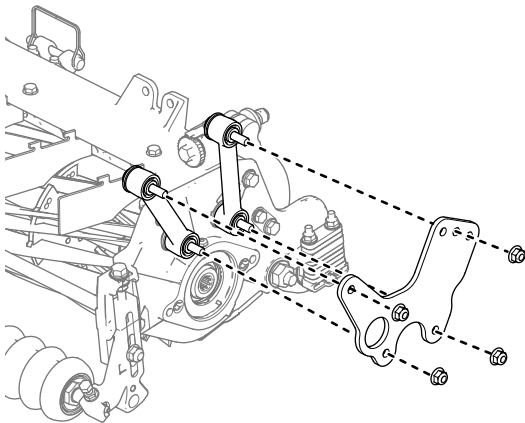

Figure 22
2. Insert the fixed plate onto the bolts and secure it with the previously-removed nuts. (Figure 22).